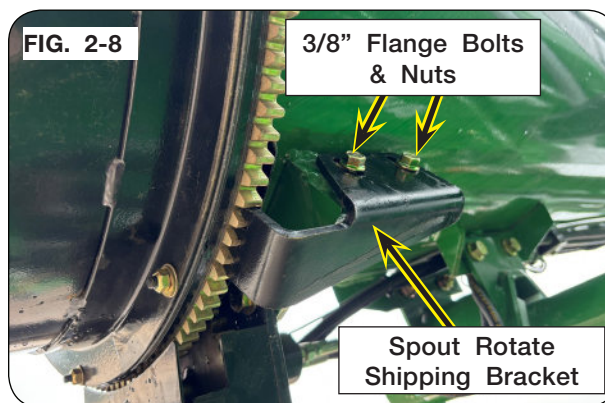

FIG. 2-8
2. Remove and discard 3/8"-16UNC x 1 1/4" flange screws (9003259) and 3/8"-16UNC flange nuts (91263) from the auger spout rotate shipping bracket (296095B). (FIG. 2-8)